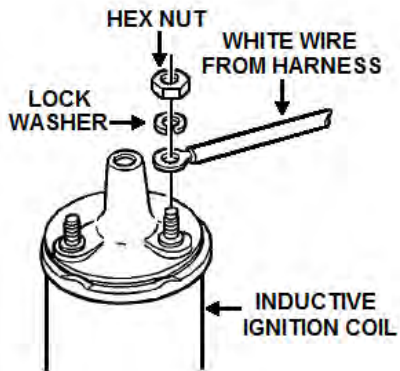

Figure 16: Inductive Ignition Tach Signal Connection
3. If you are operating an inductive type of ignition system, connect the white wire to the negative side of the ignition coil with a ring terminal (Fig. 16).